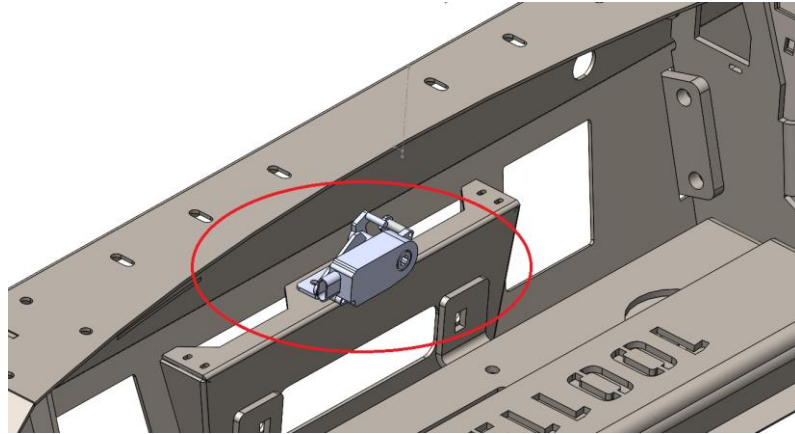

Figure 11
17. Secure the Mount in place using the supplied 1/4" Button Head Socket Cap Screws and Nuts. If you are installing on our MOD V2 Bumper, we recommend securing it above the Fairlead Mount as shown in Figure 11.